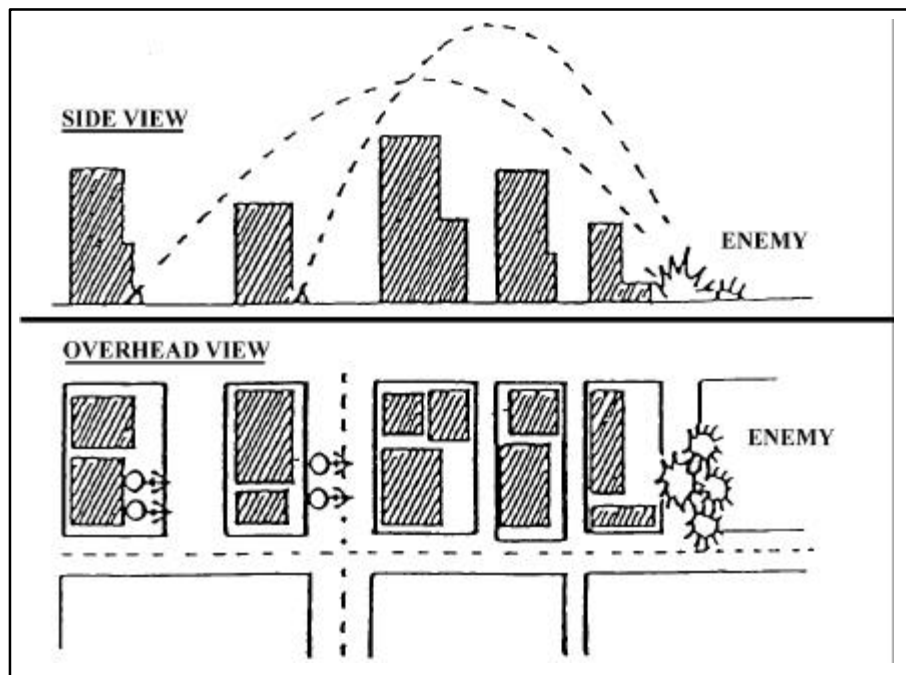

Figure B-17. Split-Section Mortar Operations on Adjacent Streets
(1) The 60-mm and 81-mm mortars have limited effects on structural targets. Even with delay fuzes, they seldom penetrate more than the upper stories of light buildings. However, their wide area coverage and multioption fuzes make them useful against an enemy force advancing through streets, through other open areas, or over rubble.
(2) Mortar platoons often operate as separate firing sections during combat in built-up areas. The lack of large open areas can preclude establishing a platoon firing position. Figure B-17 shows how two mortar sections that are separated by only one street can be effective in massing fires and be protected from countermortar fire by employing defilade and dispersion.